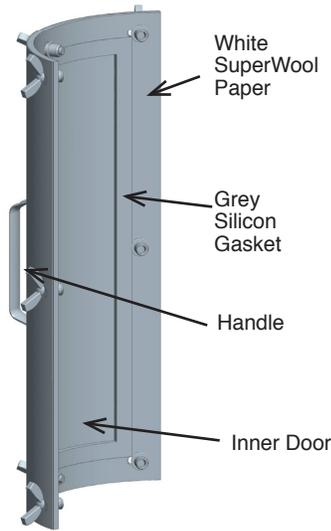

Figure 49: Step 6 of Removal for Inspection for the ADL
- 6- Inspect the ceramic gasket (white) and the silicone gasket (gray) attached on the inside of the Inner door for any damage (see figure 49). If any damages, you must replace one or both gaskets. See **Figure 49**